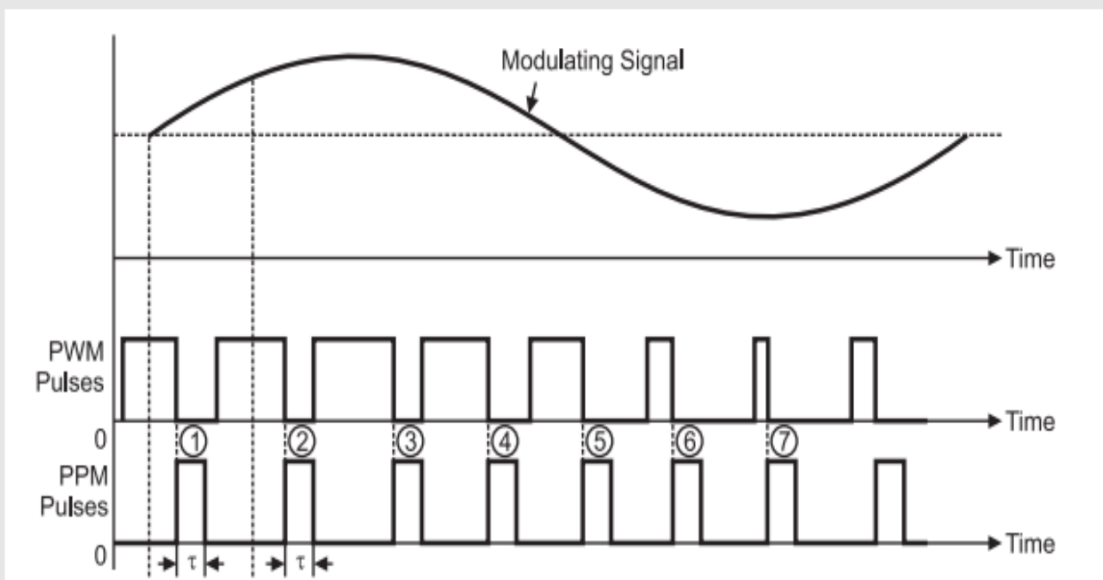

Fig.1 : PPM pulses generated from PWM signal
- The PPM pulses can be derived from the PWM pulses as shown in fig.1.
- The vertical dotted lines drawn in fig.1 are treated as reference lines to measure the shift in position of PPM pulses.
- The PPM pulses marked 1, 2 and 3 in fig.1 go away from their respective reference lines. This is corresponding to increase in the modulating signal amplitude.